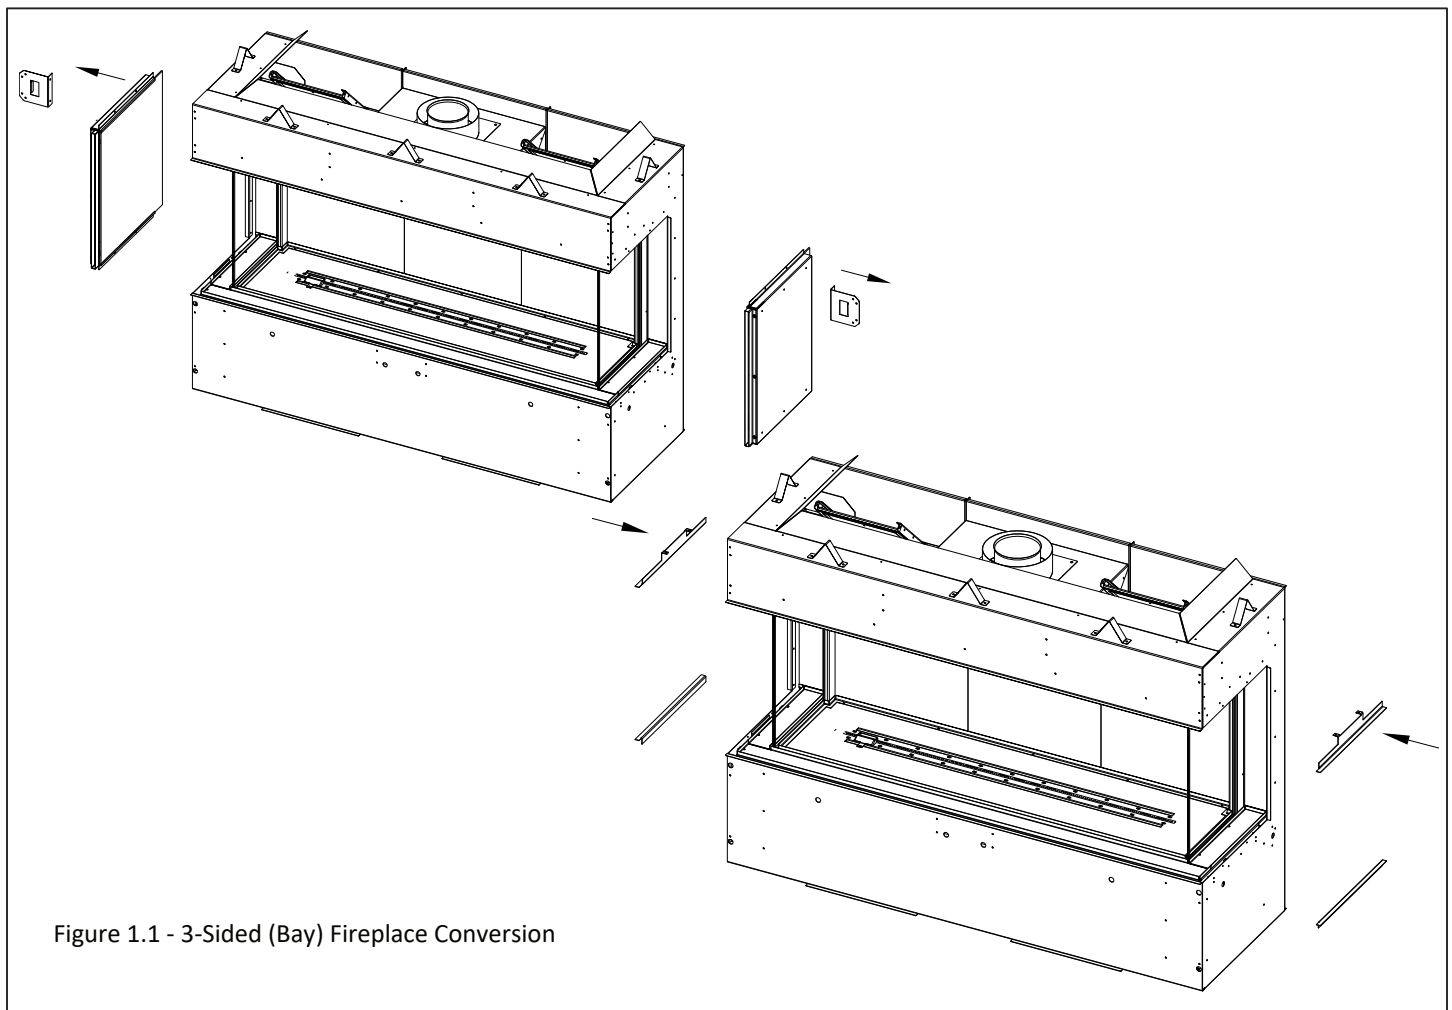

Figure 1.1 - 3-Sided (Bay) Fireplace Conversion
Figure 1.1 shows the full conversion process for both sides of the fireplace. If you want a corner fireplace then only remove the block off plate for the side of the fireplace you want visible and perform the conversion to that side. For a three-sided (Bay) fireplace then follow all instructions to complete the conversion on both sides.
1. Remove and discard the nailing flanges and side block off plates for one or both sides depending on your installation choice. See Figure 1.1. Save these screws for Step 2.